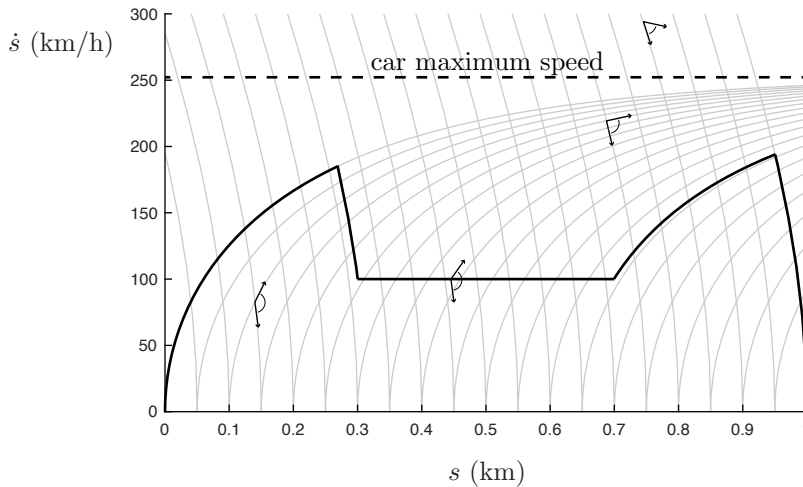

Figure 9.8: The maximum speed of the car, sample motion cones, and the law-abiding time-optimal time scaling for the car.
- (b) See Figure 9.8. You reach your highest speed near the end of the trip. This speed is slightly higher than the highest speed you reach in the first part of the trip. The car does not always follow maximum acceleration or deceleration; the zero acceleration during the 100 km/h stretch is inside the feasible motion cone, not on the edges.